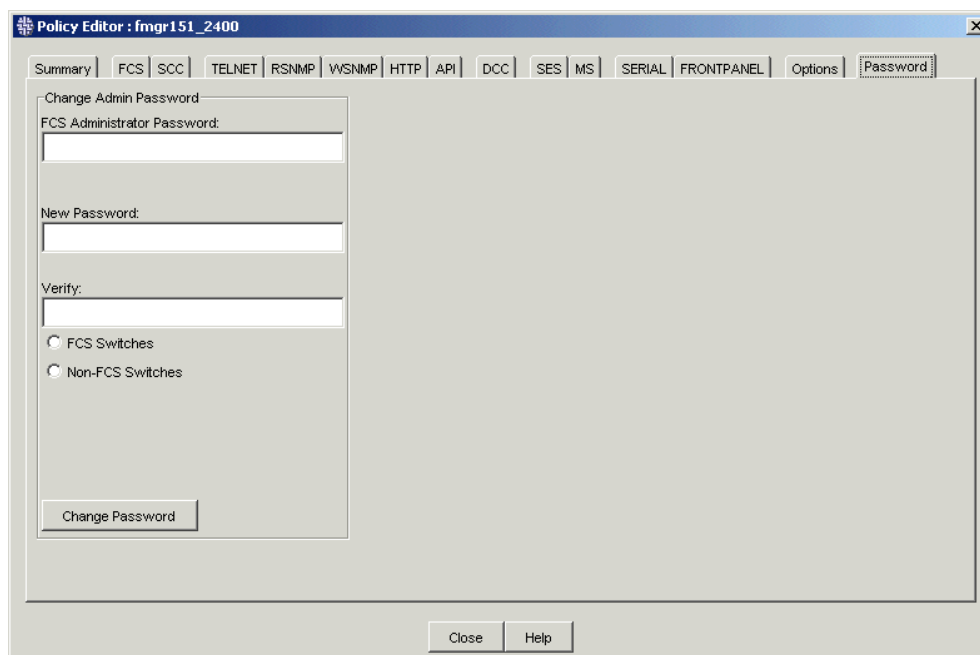

Figure 38: Configuring the FCS or Non-FCS Admin Security Password
2. Click the **Password** tab (see Figure 38).